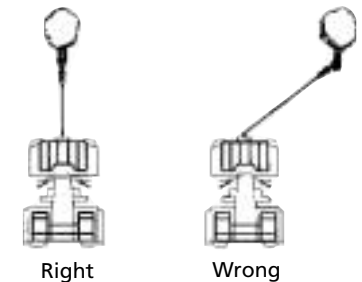

Figure 6
13. AVOID CONTINUOUS PULLS FROM EXTREME ANGLES as this will cause the wire rope to pile up on one end of the drum (Figure 6). This can jam the wire rope in the winch, causing damage to the rope or the winch.